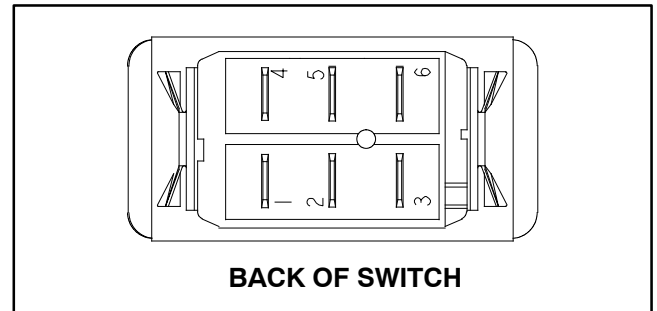

Figure 8
4. With the use of a multimeter (ohms setting), the switch functions may be tested to determine whether continuity exists between the various terminals for each switch position. The switch terminals are marked as shown in Figure 8. The circuitry of the light switch is shown in the chart below. Verify continuity between switch terminals.